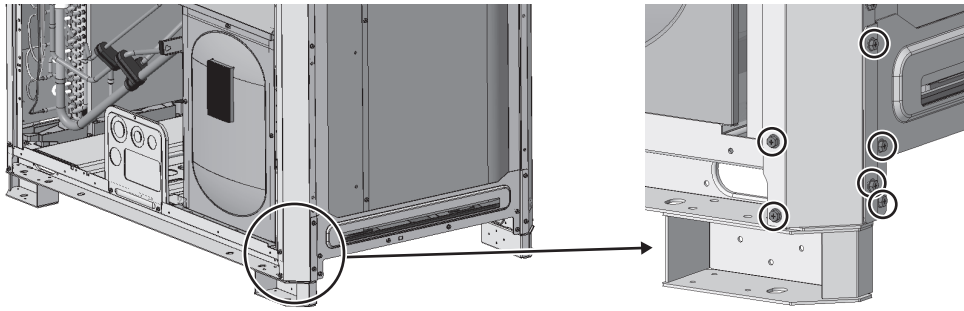

Fig. 71
- (3) Remove the screws that secure the right pillar on the front side and remove the pillar. (Six screws: Fig. 71)